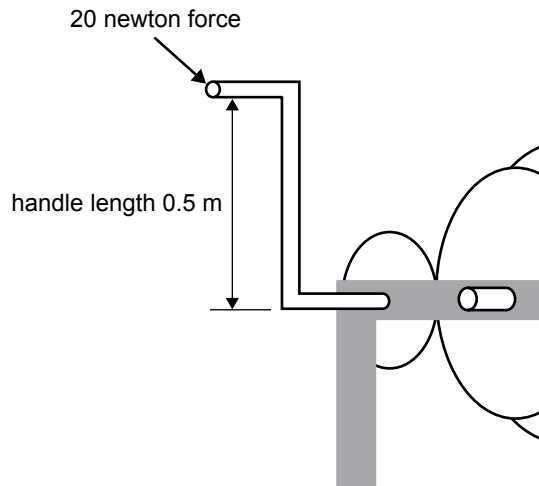

Figure 5
f. A force of 20 newtons is applied to the handle (Figure 5). Calculate the torque applied to the 15-tooth gear. Refer to the formula on page 19 and show all working.